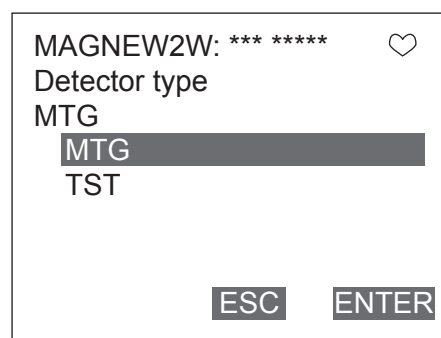

Figure 7-20
2. Once the display as shown in Figure 7-20 appears, move the arrow key up or down to select a detector type. After making a selection, press F4 (ENTER). If F3 (ESC) is pressed here, the selection will be canceled and the display will return to the Detector config menu.